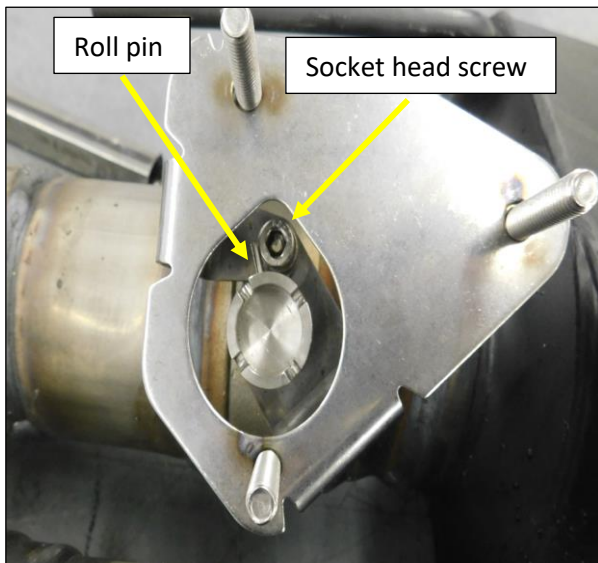

Figure 6
- Rotate the Flowmaster exhaust valve so that the valve blade is in the fully open position and the roll pin on the valve shaft is stopped on the socket head screw (**Fig. 6**).
- Install the provided  $\frac{1}{4}$  x 1.25 bolts (5) with a  $\frac{1}{2}$ " spacer (4) between the valve mounting plate and the actuator.